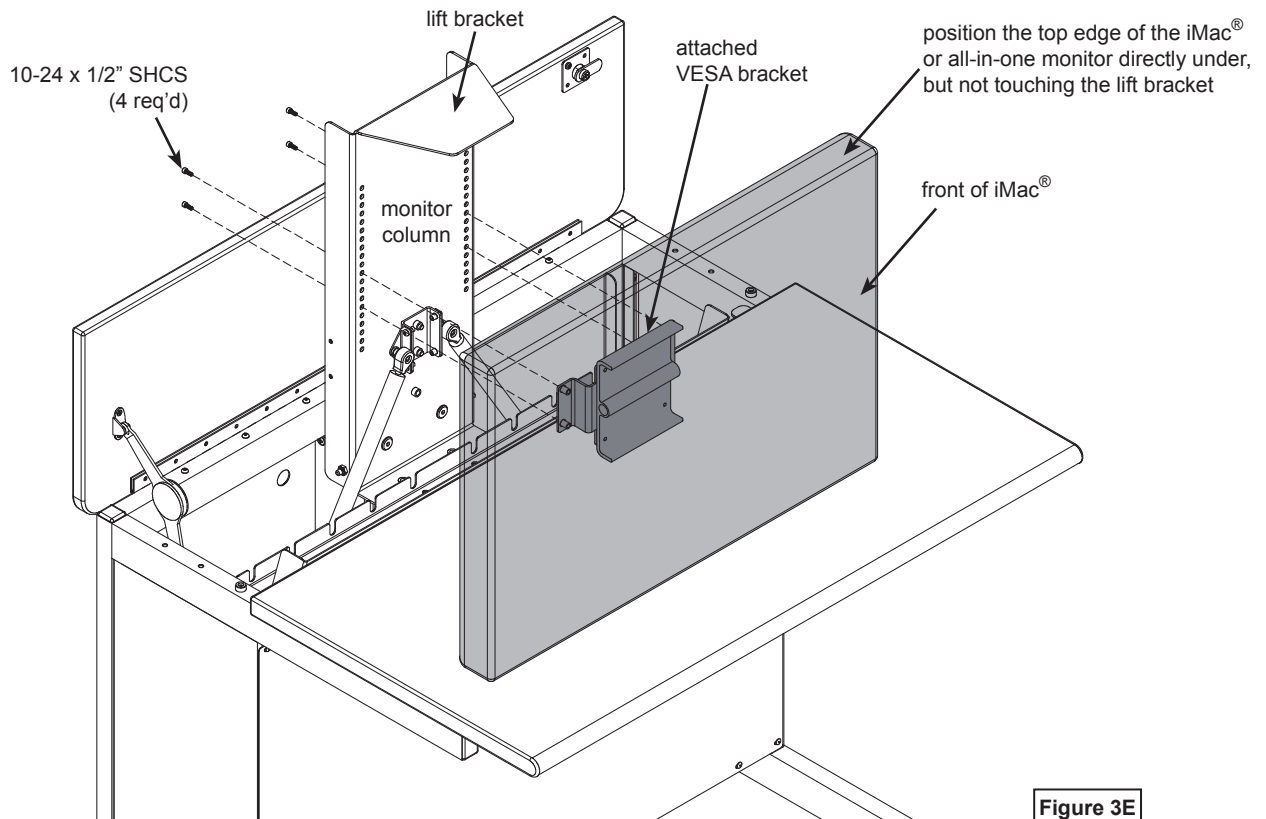

Figure 3E
3. Attach the VESA bracket / monitor to the monitor column with (4) 10-24 x 1/2" screws as shown in **Figure 3E.** The monitor should be fully-supported while installing fasteners.